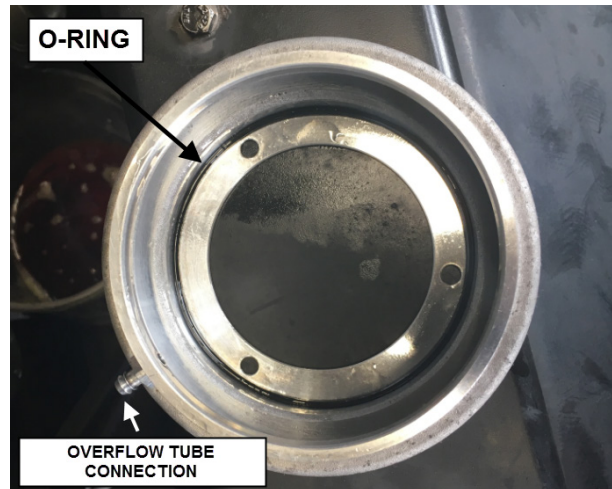

FIGURE 41: O-RING LOCATION INSIDE OIL CHAMBER
13. Install a similar O-Ring inside the oil chamber (figure 41).